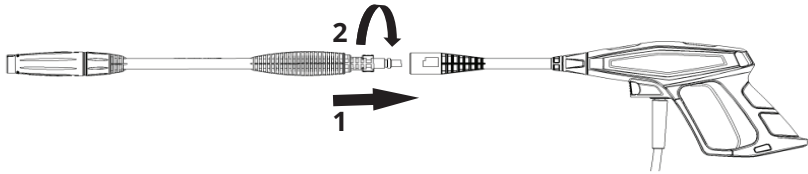

Figure 8
6. Connect the spray lance to the high pressure hose and spray gun assembly. See figure 8 and 9.